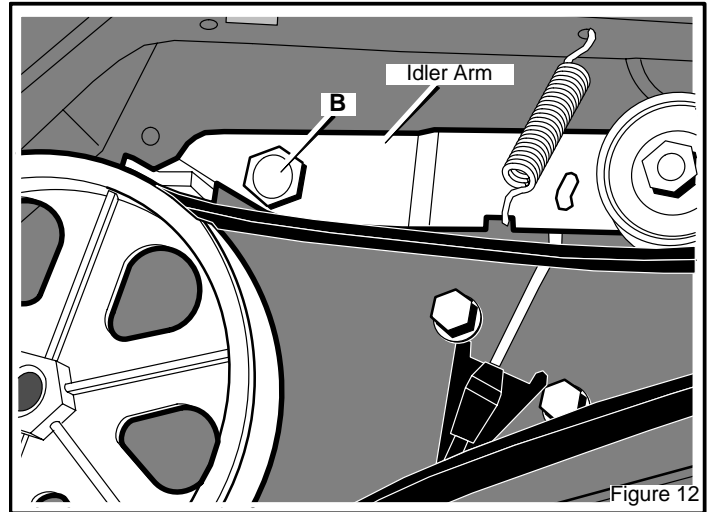

Figure 12
2. Apply a drop of oil to the **idler arm** at point **B** (see Figure 12).